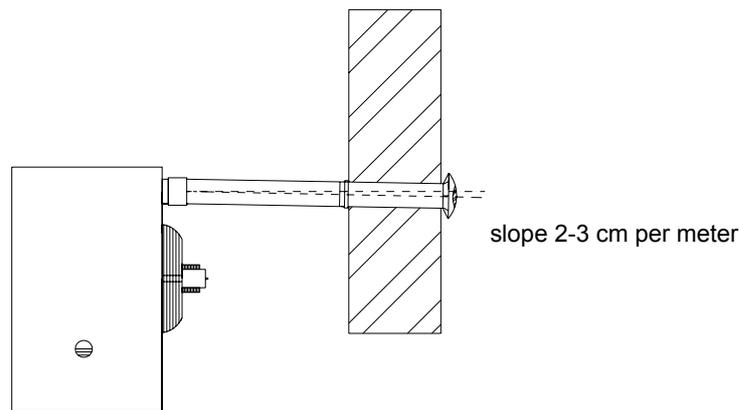

Figure 17 – Slope of horizontal ducts
-  When horizontal pipes with lengths above 1 metre are installed, the flue pipe must be mounted with a slope of 2 to 3 cm each 1 metre length (see Figure 17), to prevent entering the condense drops into the unit. In addition, to install correctly the flue exhaust and the air intake terminals, follow the details given in Figure 18.